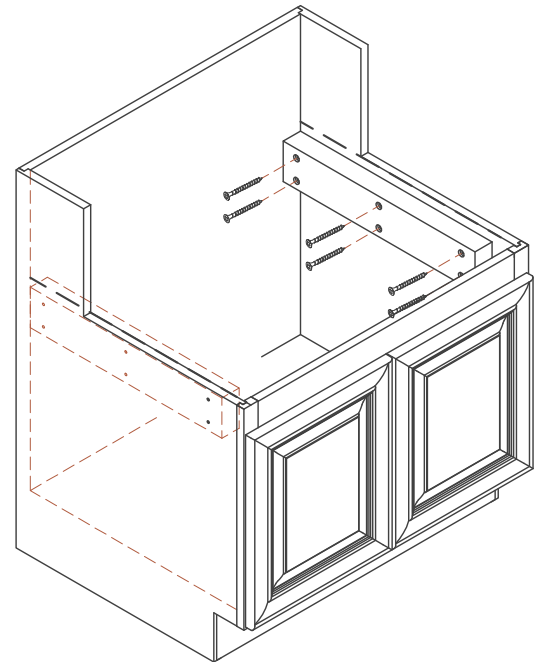

Figure 4.
Step 7: Cut-out the sections where your drain and faucet lines will be. These will depend on the type of installation you chose (Under-the-counter, flush-mount, semi-recessed). **See Figure 4.**
Step 8: fit the board on top of the beams and verify that it is leveled. If not leveled, adjusted with shims. **See Figure 4.**